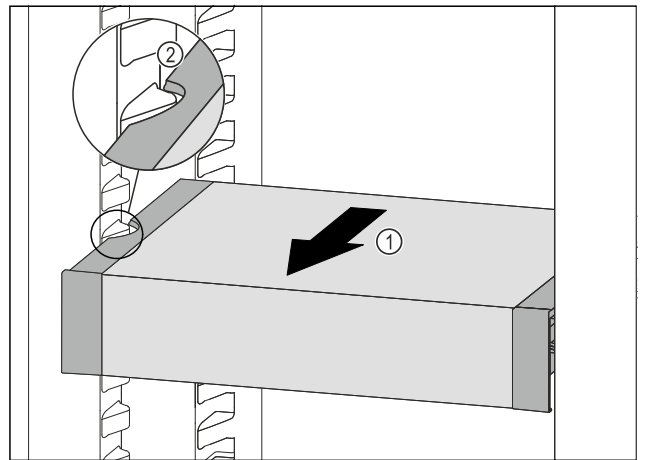

Fig. 110
- Pull VarioSafe forwards Fig. 110 (1) until the recesses in the side of the VarioSafe are at the level of the support rib in the fridge section. Fig. 110 (2)